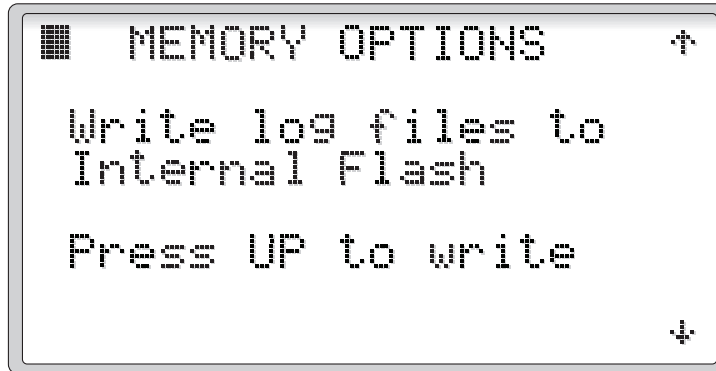

Figure 63
2.3.4.6 Memory Options (Figures 63 - 65)